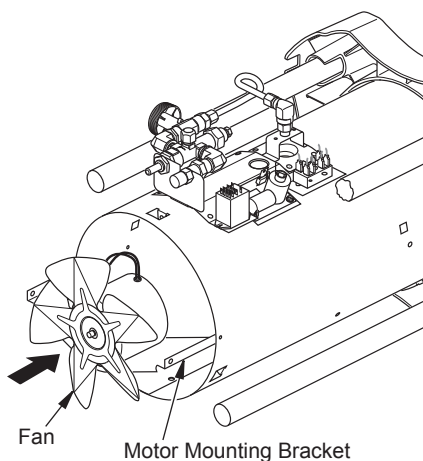

Figure 8 - Fan and Motor Reversed for Cleaning
8. Turn motor and fan around. Place motor and fan into shell backwards. *Note: Motor will go into shell first* (see Figure 8).
9. Line up rear mounting holes in shell with first hole on each side of motor mount (see Figure 8). *Note: When holes are lined up, fan should be outside of shell.*